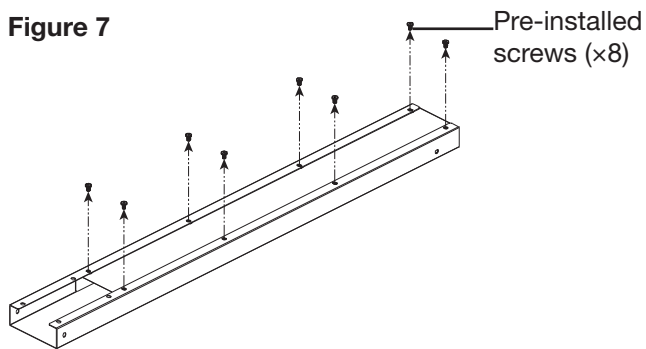

Figure 8
2. Insert the regulator with hose through the upper post. (Figure 8)